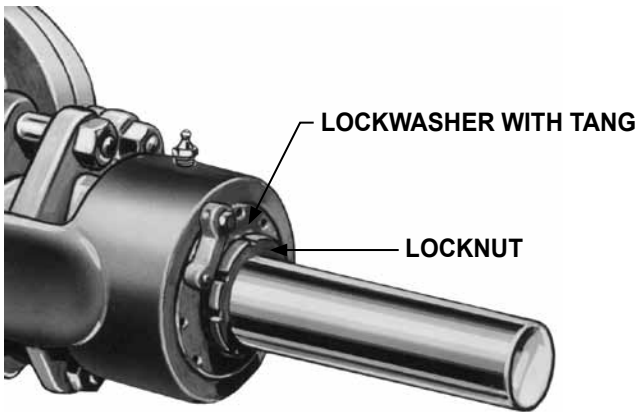

FIGURE 7
6. Bend the tang on the lock washer up and with a spanner wrench; remove locknut and lockwasher from the shaft. **Refer to figure 7, page 6.**